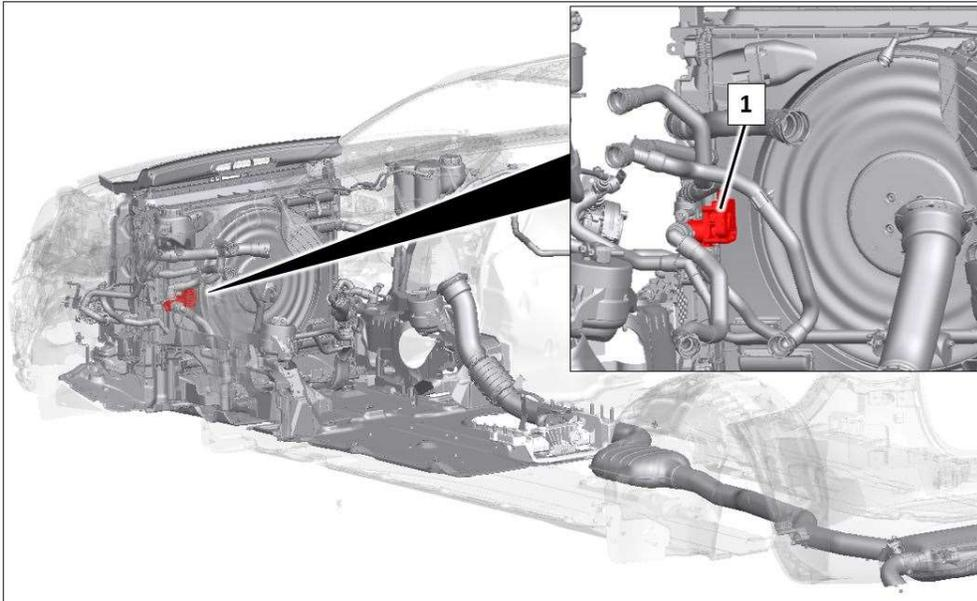

Figure 1: Coolant directional control valve (Y73/1) of low-temperature circuit (**1**)
1. Replace **coolant directional control valve (Y73/1)** of low-temperature circuit (**Figure 1, 1**).